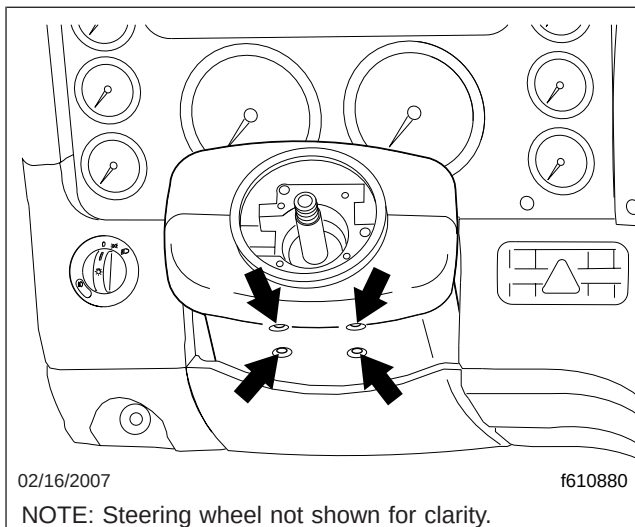

Fig. 1, Lower Steering Column Cover Fasteners
- 5.1 Remove the four screws on the lower cover; see Fig. 1.